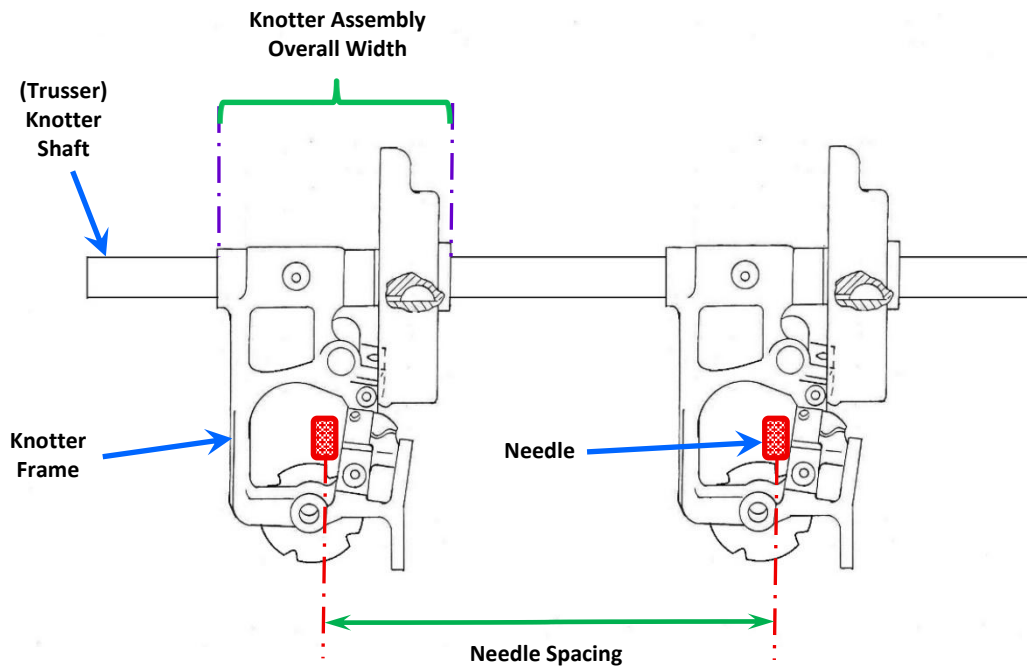

Fig.4.6 Arrangement of replacement knotter components on the knotter shaft – Important dimensions
- Knotter Unit (*Knotter Frame*) lateral location & spacing on the Knotter Shaft. Also, their lateral position relative to the Needles (*see Figs 4.6 & 5.1*) (*if this isn't being modified*)